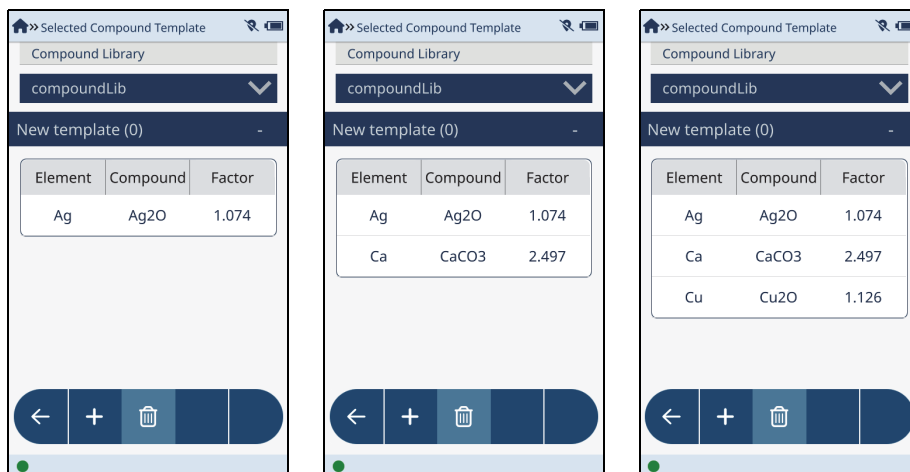

Figure 2-92 Sequence of adding three compounds
6. Continue adding compounds until your template is finished (see Figure 2-92 on page 103).